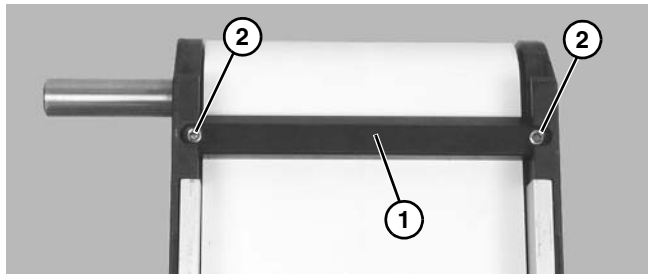

**Figure 14**
1. Place temporary support stands (**Figure 14, item 1**) at both ends of the conveyor.
2. Remove mounting brackets (**Figure 14, item 2**) from one side of conveyor. (Reverse steps 3 & 4 of “Mounting Brackets” section beginning on page 8.).
1. Ensure temporary support stands (**Figure 14, item 1**) are placed at both ends of the conveyor.